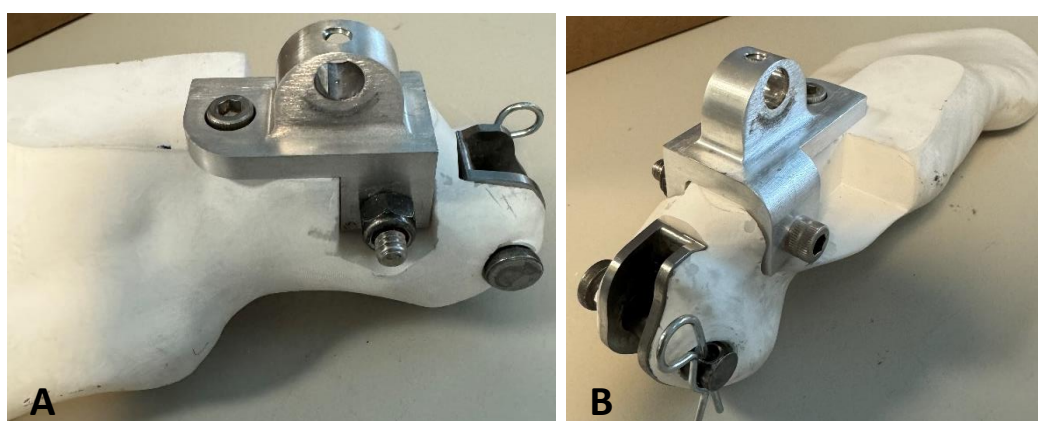

Figure S3: (A) lateral and (B) posterior/medial views of foot assembly.
3. Secure the heel insert into the heel and secure with the two $\frac{1}{4}$ "-20 bolts. Insert the clevis and cotter pin into the calcaneus of the composite foot. (See Figure S3)